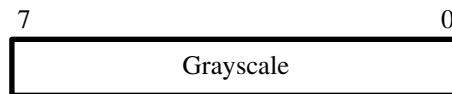

Figure 19. 8-bit Grayscale RGB Color Space.
- 8-Bit Grayscale — This is a special case of the RGB color space where three colors have the same intensity and therefore produces shades of gray. Figure 19 shows to format of the 8-bit Grayscale data. This format is equivalent to YCrCb 4:0:0 color space. This mode is defined as 8 bits per color and one color plane.